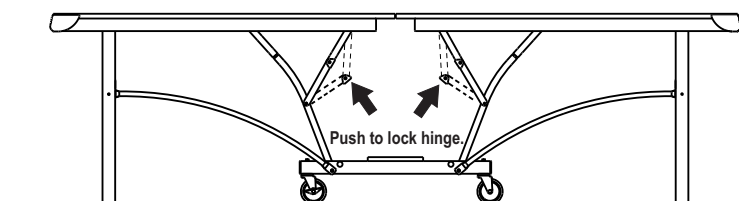

Figure 15
3. Lock all four center hinges. See Figure 15.
1. Set the table to the Playing Position and lock hinges as shown in Figure 15.